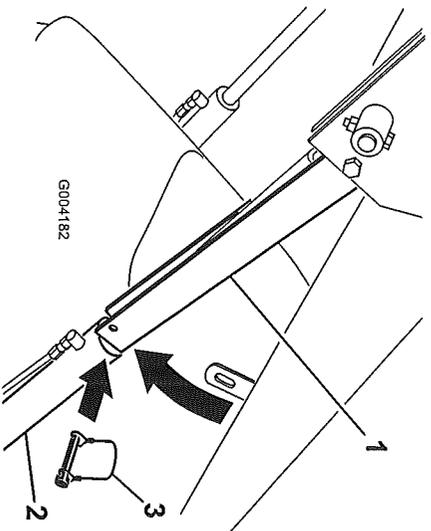

Figure 24
4. Remove the Lynch pin securing the cylinder lock to the loader arm (Figure 24).
5. Lower the cylinder lock over the cylinder rod and secure it with the Lynch pin (Figure 24).